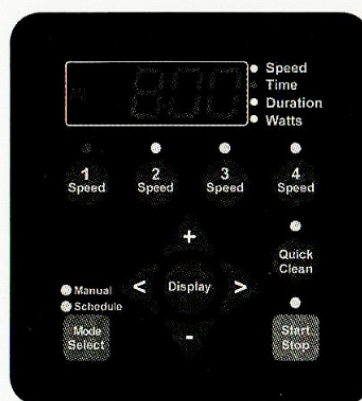

Figure 2
4. Press the "1" button again and the display will change to SPEED 1 start time. The "Time" parameter LED will begin to blink. See Figure 2.